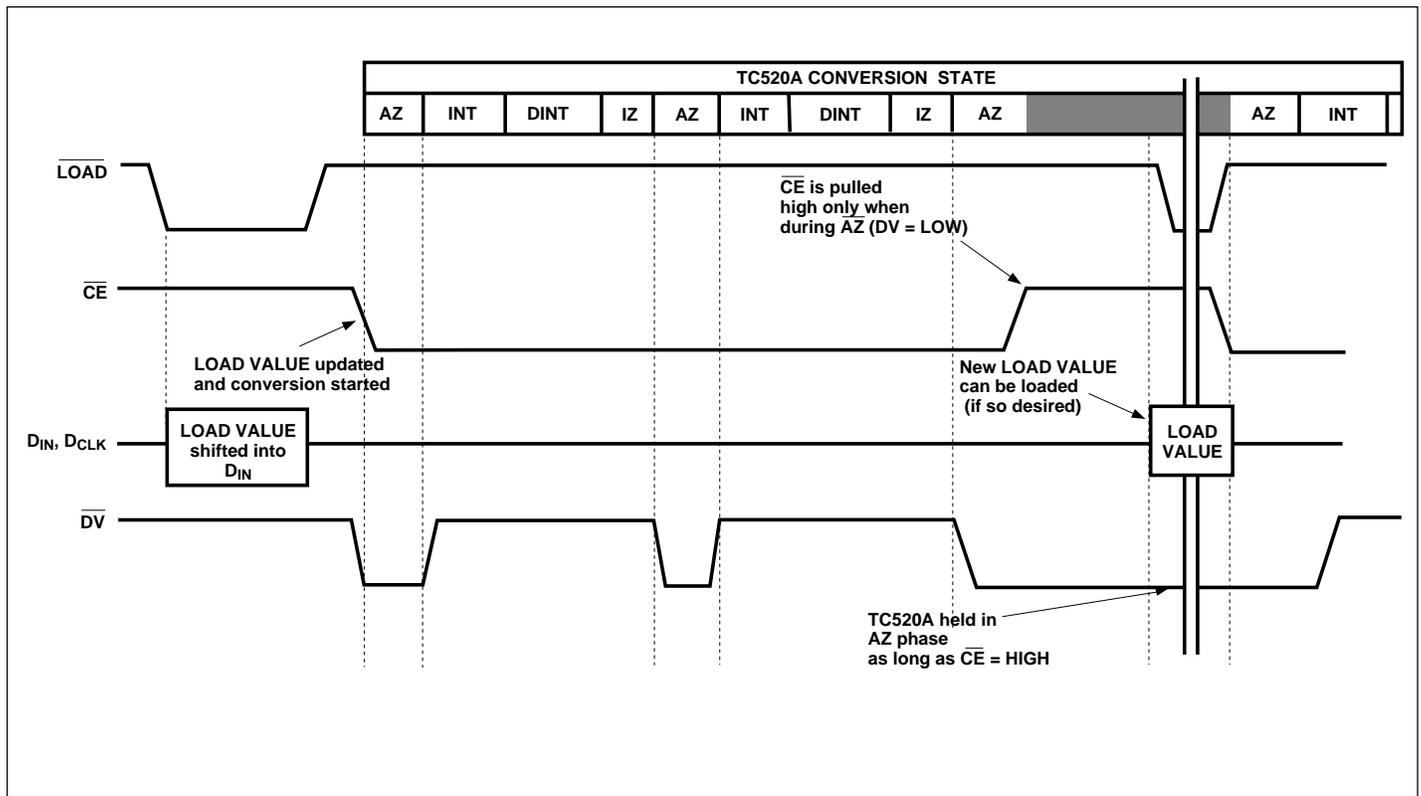
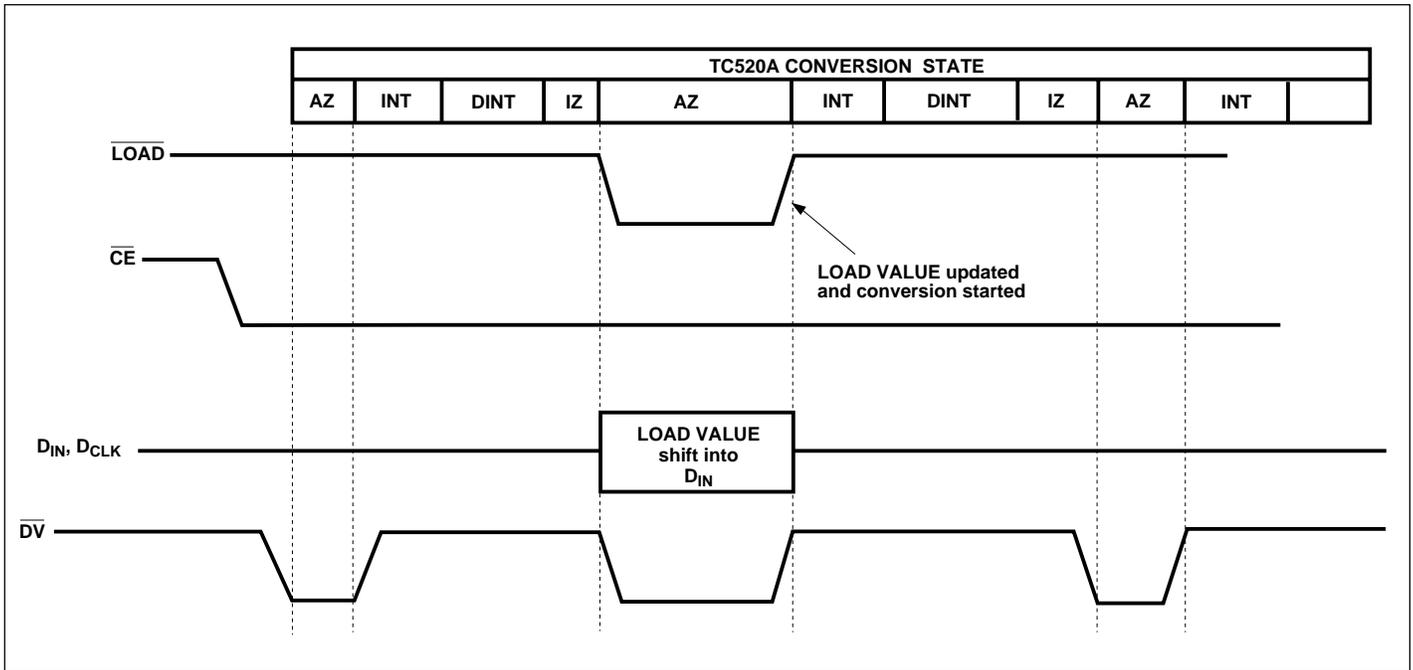

Figure 1. TC520A Initialization and Start/Stop Conversion Timing Relationships
Figure 2. Load Value Modify Cycle
TC5xx A/D converter. A conversion is consummated when A, B have been sequenced through the required 4 phases of conversion: Auto Zero (AZ), Integrate (INT), De-integrate (D_{INT}) and Integrator Zero (IZ) (See Figure 1). The Auto Zero phase compensates for offset errors in the TC5xx A/D converter. The integrate phase connects the voltage to be converted to the TC5xx A/D converter input (resulting in an integrator output dv/dt directly proportional to the magnitude of the applied input voltage). Actual A/D conversion (counting) is initiated at the start of the D_{INT} phase and terminates when the integrator output crosses 0V. The integrator output is then forced to 0V during the IZ phase and the converter is ready for another cycle. Please see the TC500/500A/510/514 data sheet for a complete description of these phases.
The LOAD VALUE (upper 8 bits of the counter) can be programmed over a range of 0FFH to 00H (corresponding to a range of $AZ = INT = 256$ counts to 65536 counts). (See Figure 2). The LOAD VALUE sets the number of counts for both the AZ and INT phases and directly affects resolution and speed of conversion. The greater the number of counts allowed for AZ and INT; the greater the A/D resolution, but the slower the conversion speed.
In this example, $\text{LOAD VALUE} = 128_{(10)} = 10\text{H}$. Therefore, a LOAD VALUE of 10H is loaded to the TC520A. If the desired T_{INT} was 100msec instead of 131msec, the LOAD VALUE would be 9EH, and so on. The TC520A LOAD VALUE must be initialized on power-up, and can be re-initialized as often as desired thereafter. This is accomplished by bringing the $\overline{\text{LOAD}}$ input low while transmitting the appropriate LOAD VALUE to the TC520A as shown in Figure 1 and Figure 2.